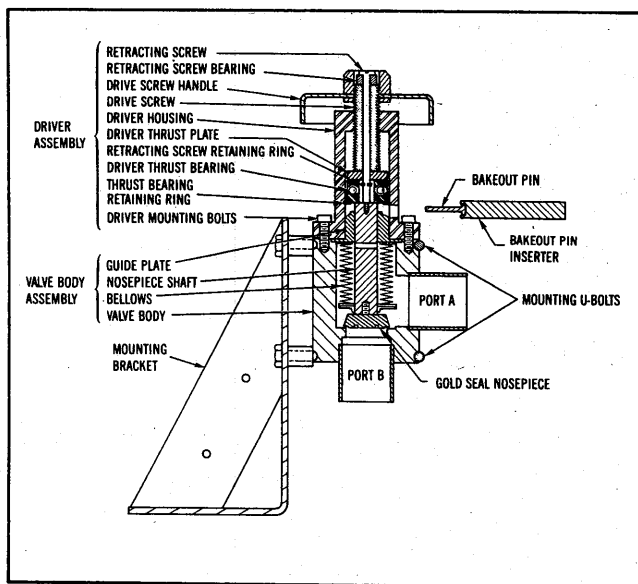

Figure 1. Sectional View of Series 204, 1 Inch Gold Seal Valve
The valve consists of a non-bakeable Driver Assembly and a bakeable Valve Body Assembly. The Driver Assembly controls valve conductance. The valve is held in the open position during bakeout by a Bakeout Pin. A stainless steel mounting bracket is available and permits mounting the valve in a variety of positions. Fig. 1 identifies and shows the proper location of all valve components. Fig. 3 shows mounting dimensions.
## 4. VALVE OPERATION (See Fig. 1)
The Driver Assembly must be removed for high temperature bakeout during which time the valve is held in the open position by the Bakeout Pin. To prepare the valve for bakeout refer to Fig. 1 and proceed as follows:
#### 6.1.1 Disassembly (See Fig. 1)
#### 6.1.4 Reassembly (See Fig.1)
- 6.1.4.3 Install the Driver Thrust Bearing into the Driver Housing and install the Thrust Bearing Retaining Ring just above the Bakeout Pin hole in the Driver Housing as shown in Fig. 1.